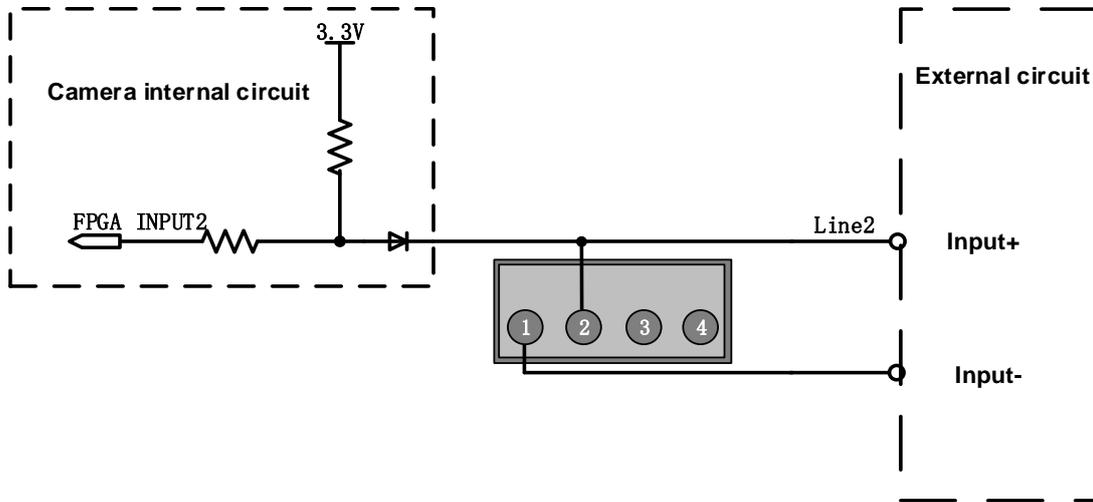

Figure 7-12 Internal equivalent circuit of camera when Line2/3 is configured as input
- When Line2/3 is configured as input, the internal equivalent circuit of camera is shown in Figure 7-12, take Line2 as an example